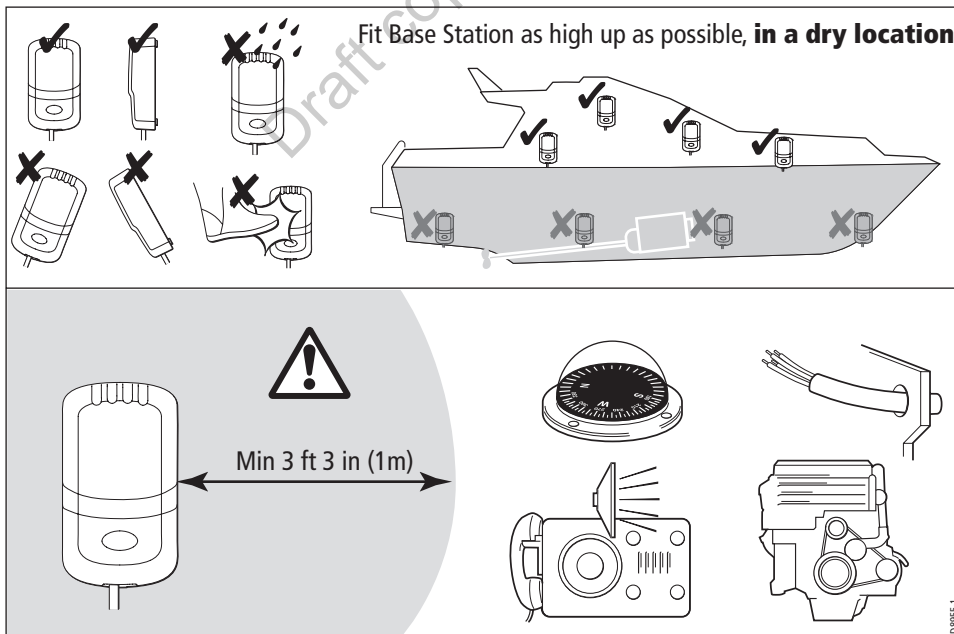
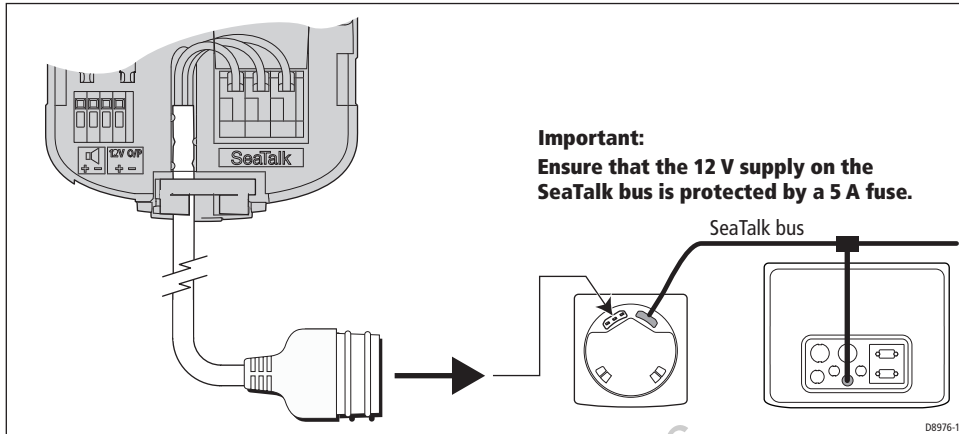
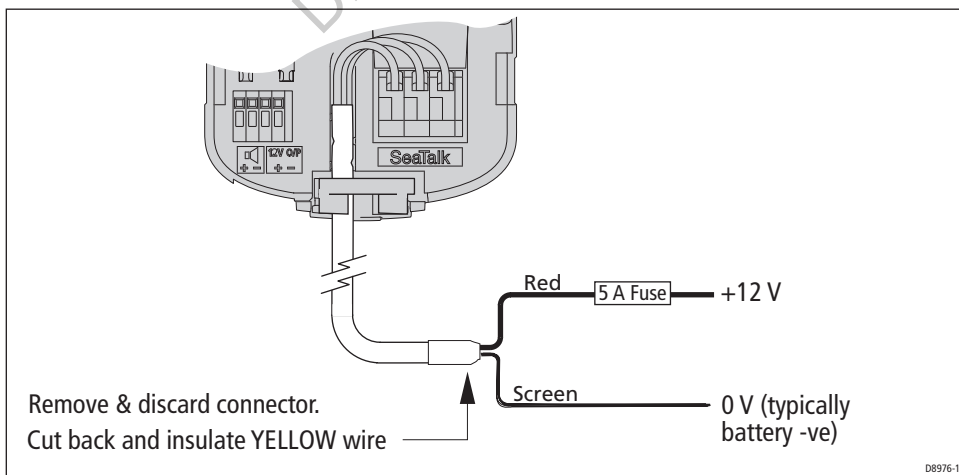

Figure 3 - Locating Base Station
Figure 5 - Base Station connection to SeaTalk
Figure 6 - SeaTalk power connections when SeaTalk is not available
The SeaTalk cable provides power in and alarm signal out connections for the Base Station. If SeaTalk is available use this to connect the Base Station to SeaTalk, as shown in *Figure 5*. If SeaTalk is not available, use the SeaTalk cable to connect the Base Station to a 12 V dc power source.
The nominal LifeTag Base Station-to-Tag range is 30 feet (9 meters), so on boats where this separation is unlikely to be exceeded, the LifeTag system should operate satisfactorily with just one Base Station, provided it is positioned for optimum performance, as detailed in *Figure 3*.
1. Referring to *Figure 3*, place the Base Station at the location you intend installing it and temporarily connect it either to Seotalk as described in *Figure 5* or to a separate 12 V dc supply via a 5 A fuse, as described in *Figure 6*.
2. Temporarily connect each Base Station to a 12 V supply (as in *Figure 5* or *Figure 6*).